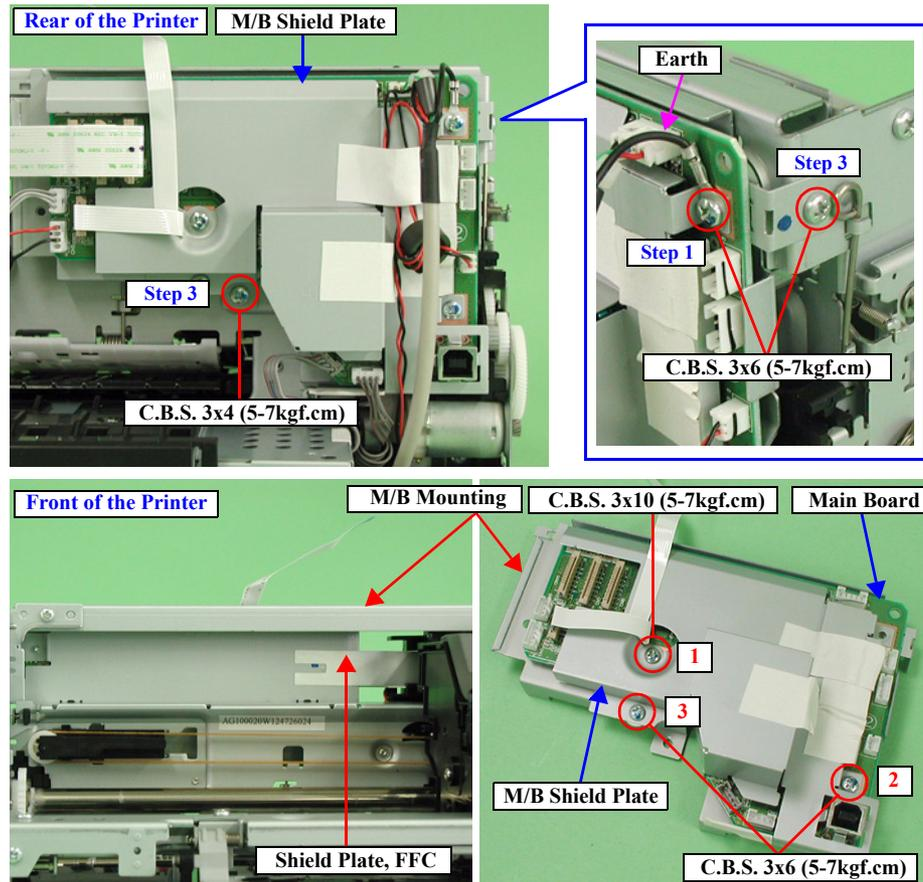

Figure 2-15. Main Board Assy. Removal
- Tighten the three screws to secure the M/B Shield Plate in the order shown in Figure2-15.